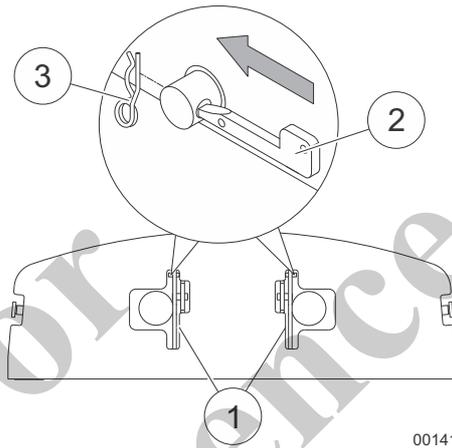

Fig. 180 Securing the counterweight
24	Remove the securing bolt (2) in Fig. 180 from the position (1) in Fig. 180 on the underside of the counterweight and insert it into the locking bolt.
25	Secure the securing bolt with a spring cotter pin (3) in Fig. 180.